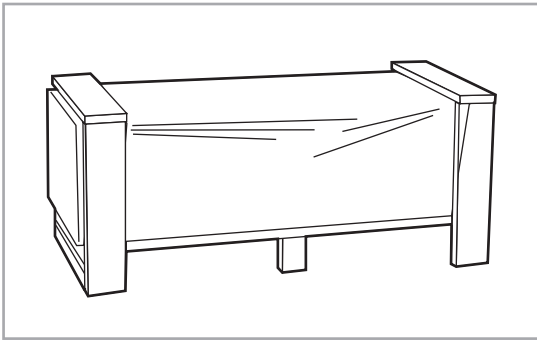

Figure 3.1
- 1) The package includes the heater, heater blocks (a) and the small heater stones (b). Unpack the components with the box placed horizontally (see Figures 3.1 and 3.2).